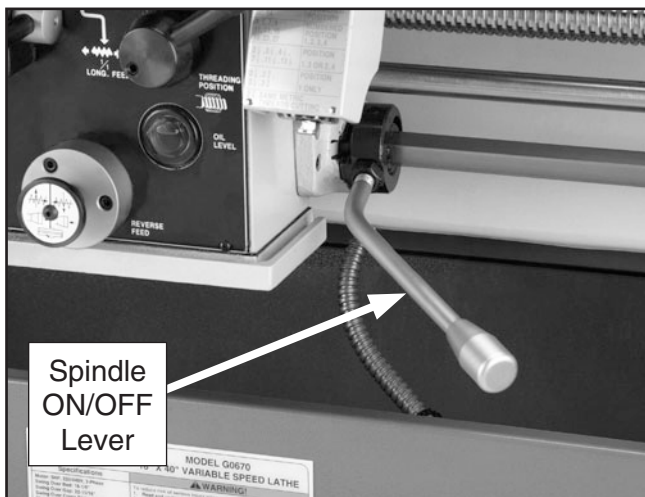

Figure 20. Spindle ON/OFF Lever.
15. Move the spindle **ON/OFF** lever (Figure 20) down and the chuck will rotate.